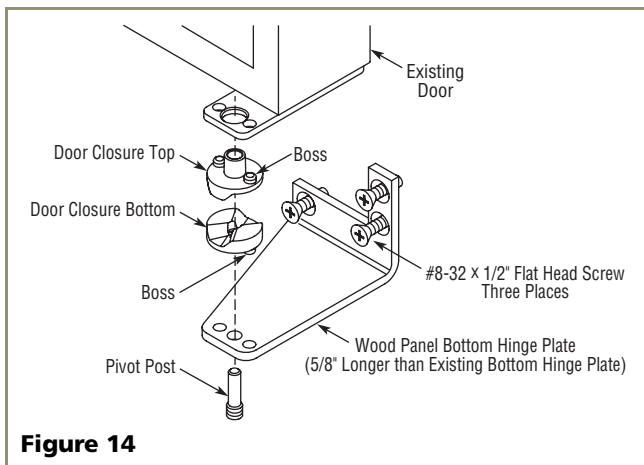

Figure 14
4. Replace the door closure assembly onto the bottom pivot post (see **Figure 14**). Be sure that bosses on closers align with holes in hinge and hinge plate.